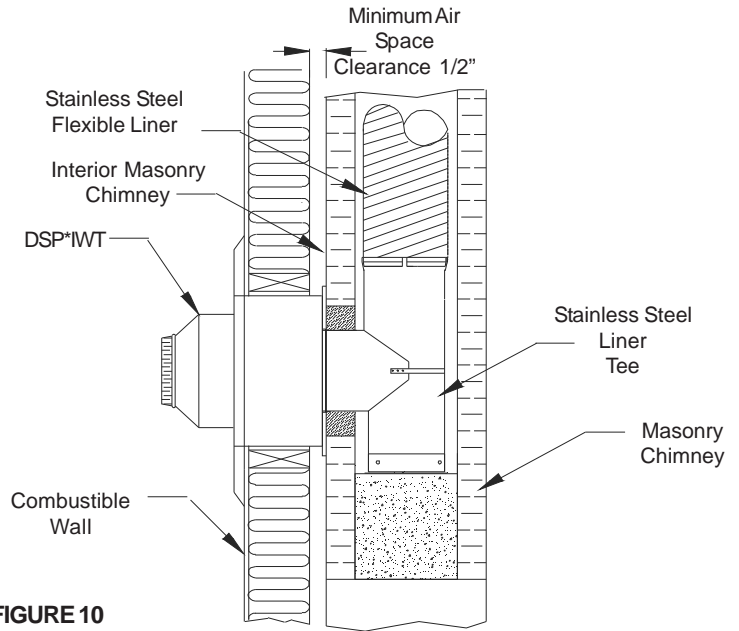

FIGURE 10
- If a combustible wall is in front of the brick chimney through which your connector pipe connects to the liner, in order to install the appliance, a listed wall pass-through system or other approved methods (see NFPA 211 or CAN/CSA-B365) must be installed. See Section 8 for the Insulated Wall Thimble (DSP-IWT) and FIGURE 10.
- If the 18-inch clearance to combustible materials – as mentioned in Section 7 is not achievable, an Insulated Wall Thimble (IWT) can be installed to reduce this clearance to two inches (see FIGURE 10). Follow the installation instructions supplied with the Insulated Wall Thimble DSP-IWT or any other certified Insulated Wall Thimble.